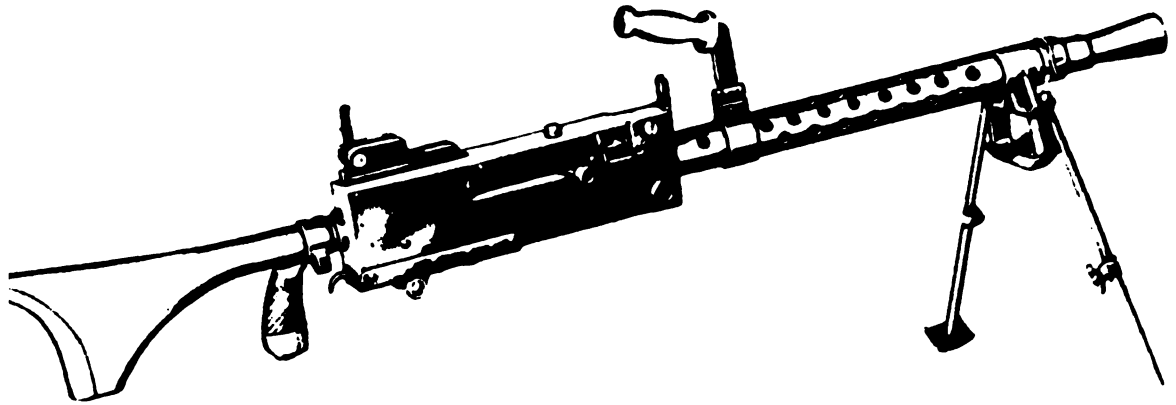

Figure 4
b. Load within 60 seconds: (See fig. 4.)
(1) Hold fire on target until feeding stops or ammunition is expended. (In cases of long ammunition belts, firing may be stopped by twisting belt to stop the feeding or by raising cover to stop feeding action.)
(2) Disassemble weapon and locate problem.
(3) Replace parts as necessary.
5. Unload And Clear Weapon Within 30 Seconds: (See fig. 4.)